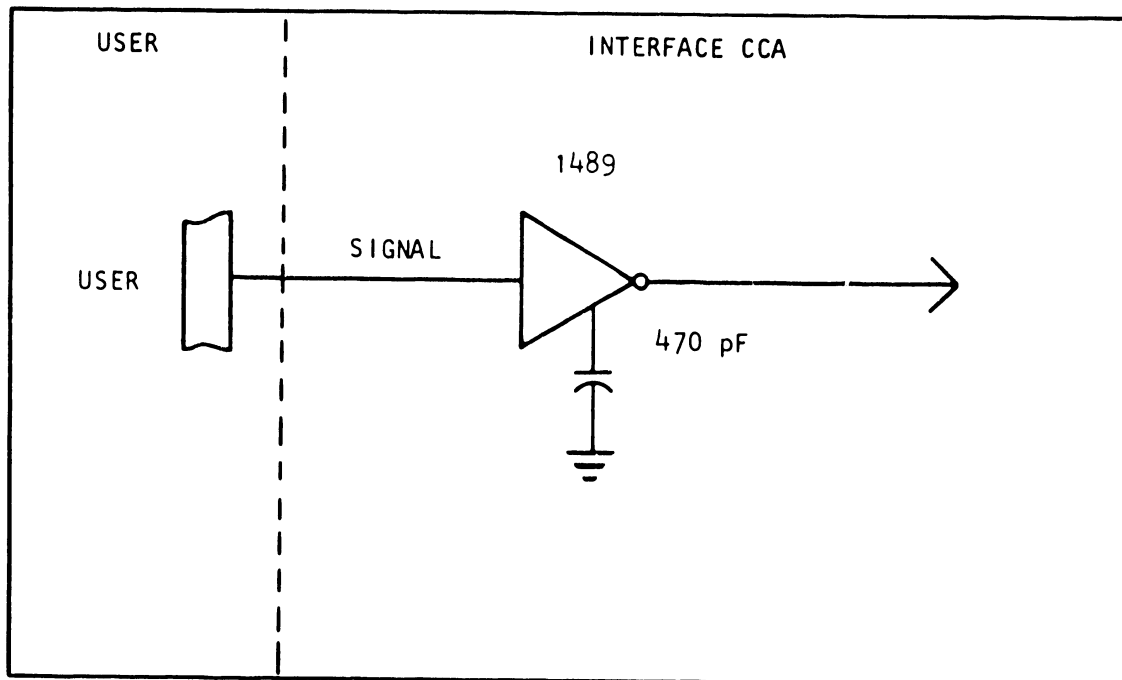

Figure 2-24. Typical RS232C Receiver Circuit
(1) RS232C Voltage - Discrete voltage levels are used for transmitting data as well as for interface communications. The single-ended RS232C compatible receivers and transmitters (SH C4) are capable of operating over a cable length of 15.3 meters (50 feet). Figures 2-24 and 2-25 illustrate the recommended RS232C receiver and transmitter circuits.